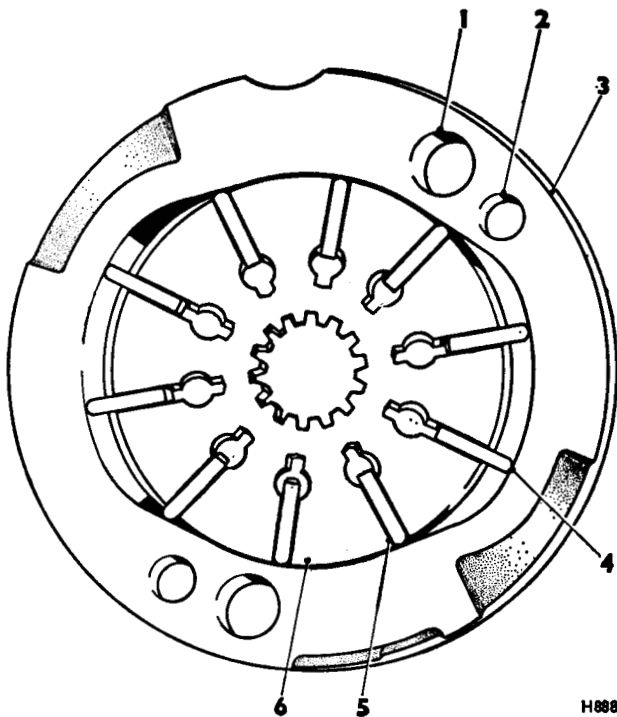

FIG. N17 PLAN VIEW—ROTOR, VANES AND PUMP RING
8. Fit the vanes into the rotor slots with the radiused edge facing outwards (see Fig. N17).